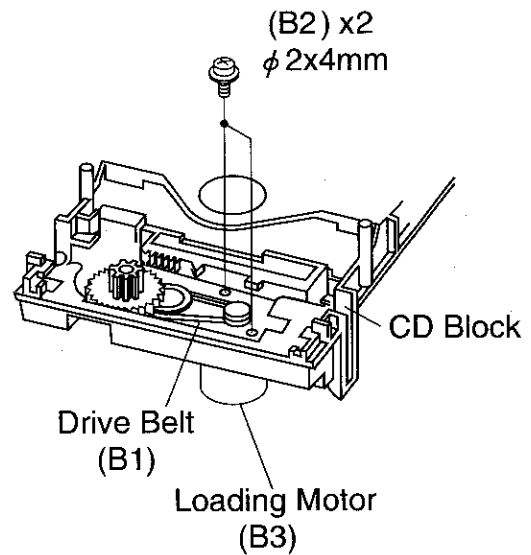

Figure 12-2
**How to remove the belt and motor (See Fig. 12-2.)**